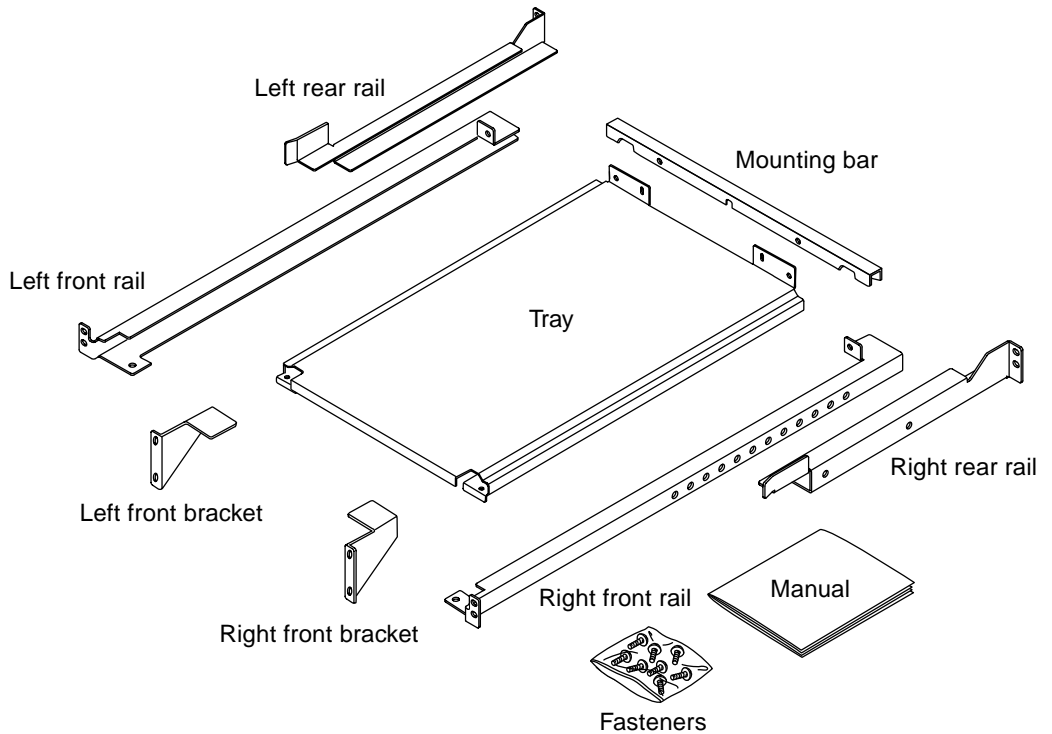

FIGURE 1 Rack-Mounting Kit Inventory
1. Unpack your rack-mounting kit (FIGURE 1).